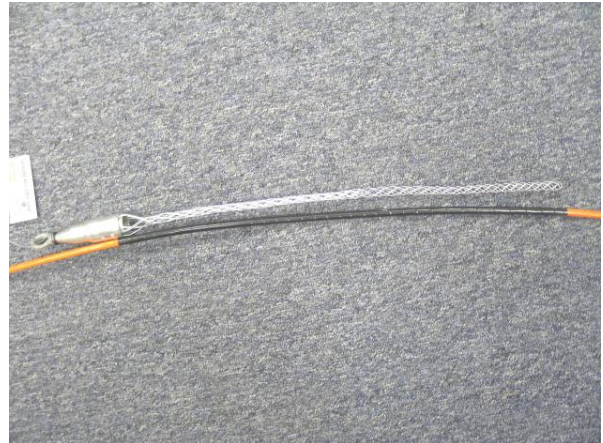

Figure 9: Apply tape from first mark second mark
Step 3: Using 3M 88T Electrical Tape or a suitable substitute, the cable should be taped between the first and second marks (See Figure 9)